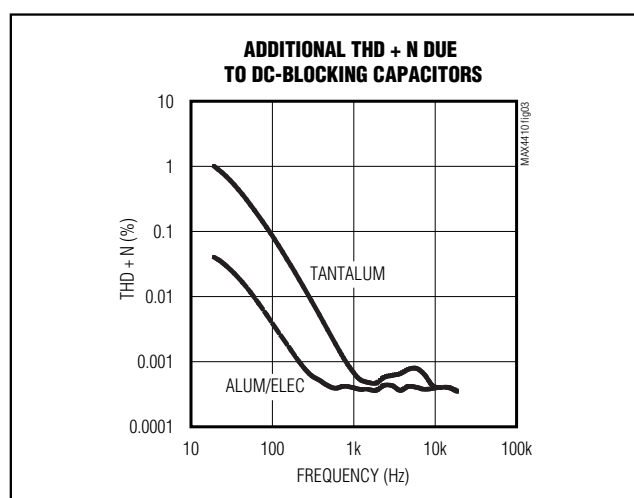

Figure 3. Distortion Contributed by DC-Blocking Capacitors
- The voltage coefficient of the DC-blocking capacitor contributes distortion to the reproduced audio signal as the capacitance value varies as a function of the voltage change across the capacitor. At low frequencies, the reactance of the capacitor dominates at frequencies below the -3dB point and the voltage coefficient appears as frequency-dependent distortion. Figure 3 shows the THD + N introduced by two different capacitor dielectric types. Note that below 100Hz, THD + N increases rapidly.